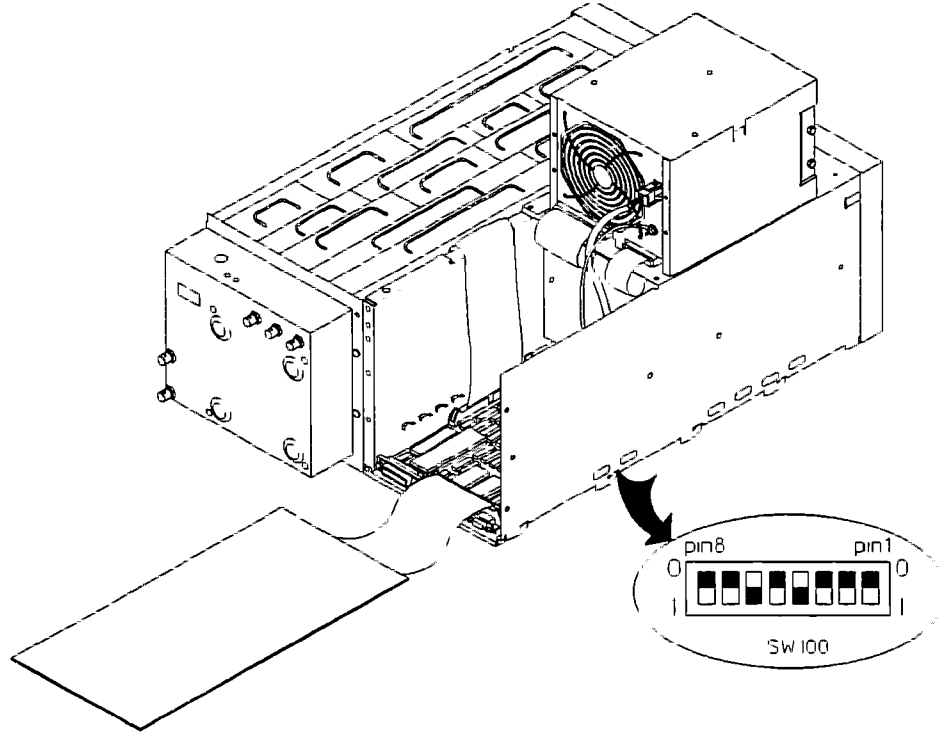

Figure 5-12. Switch Setting for Fast Bus Test
1. Set the power switch to STANDBY (0). Disconnect the fast bus cable (W11) from J5 on the ADC/Digital Filter assembly.
2. On the CPU assembly, set SW100 pin 6 to one (see figure 5-12).
3. Set the power switch to ON (1). The screen displays Fast Bus Diagnostic Test ... Also the power-on test LEDs alternately flash hexadecimal AA (DS707, DS705, DS703, and DS701 are on) and hexadecimal 55 (DS706, DS704, DS702, and DS700 are on). If the analyzer did not respond correctly, the CPU assembly is probably faulty.